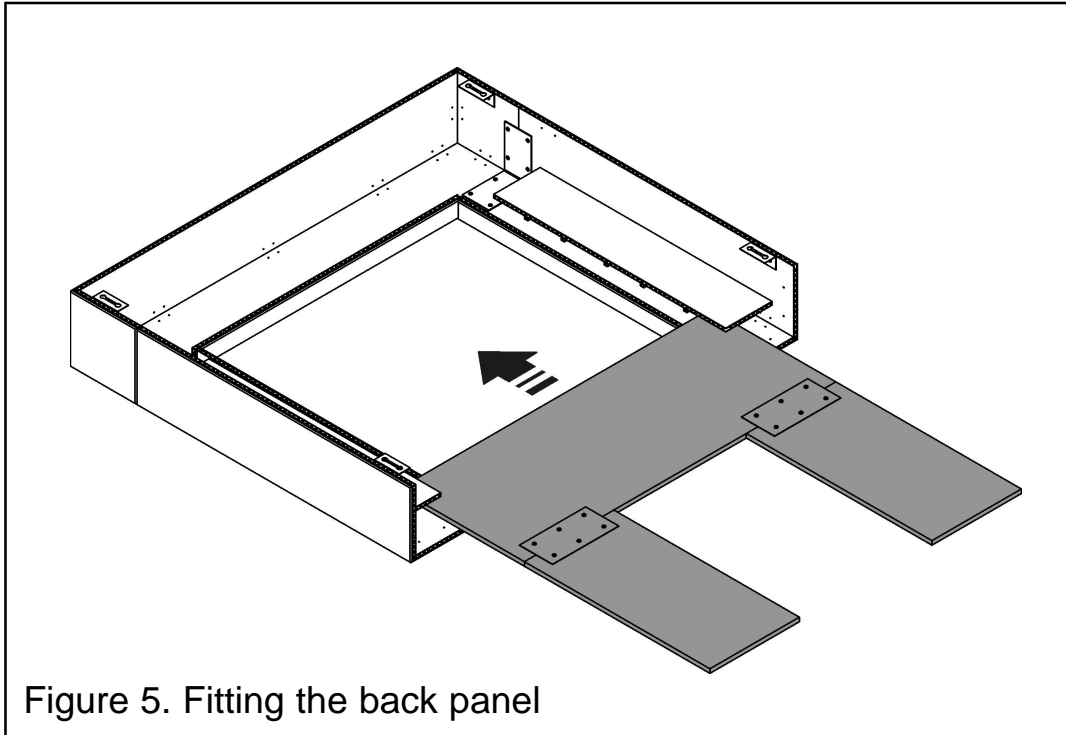

Figure 5. Fitting the back panel
- Supplied with the surround / mantle set is a back panel. Assemble this as in the guide supplied with the hearth and back panel. When assembled, slide the back panel into the opening in the rear of the surround / mantle assembly as in figure 5.